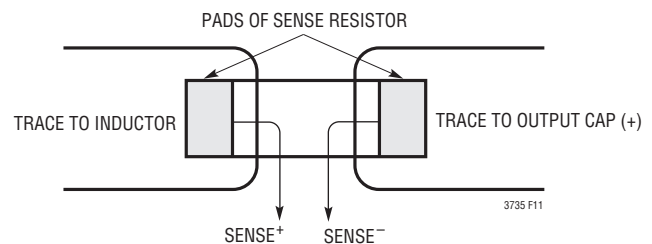

Figure 11. Proper Current Sense Connections
3) Are the SENSE[–] and SENSE⁺ leads routed together with minimum PC trace spacing? The filter capacitors between SENSE⁺ and SENSE[–] pin pairs should be as close as possible to the LTC3735. Ensure accurate current sensing with Kelvin connections at the current sense resistor. See Figure 11.